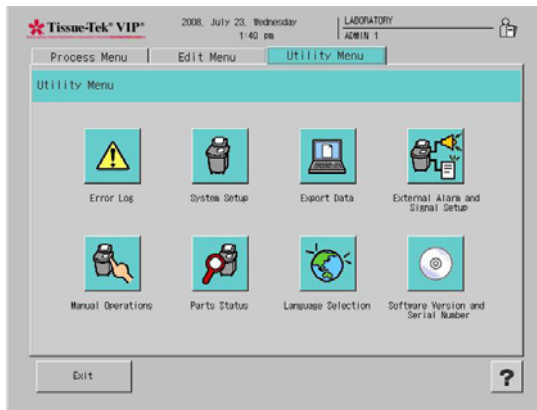

Figure 3-C
2. From the Main Menu, touch the **Menu** button and then touch the **Utility Menu** tab to display the Utility Menu (Figure 3-C).